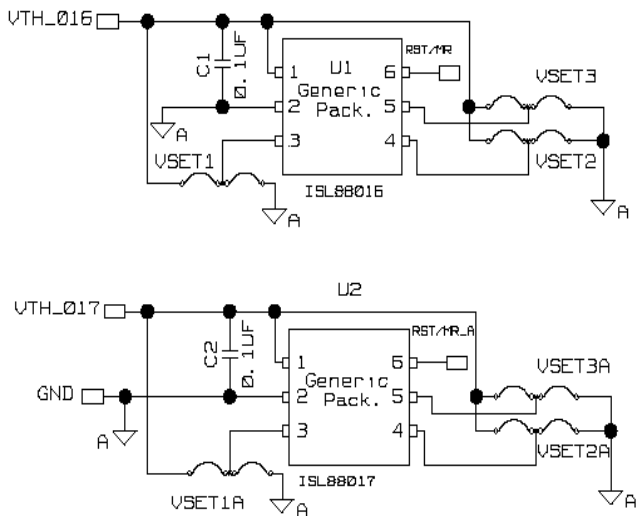
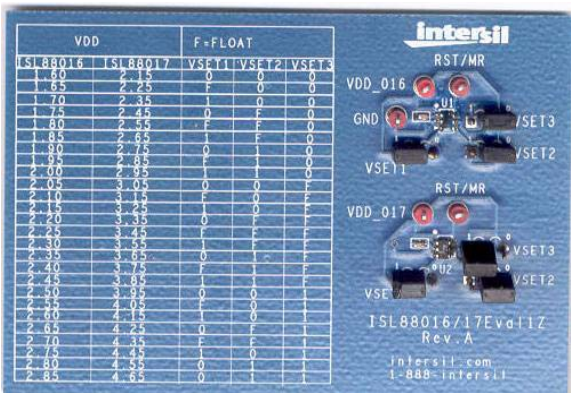

FIGURE 4. ISL88016/17EVAL1Z SCHEMATIC
FIGURE 5. ISL88016/17EVAL1Z PHOTOGRAPH
The ISL88016/17EVAL1Z platform is provided with both an ISL88016 in the top and an ISL88017 in the bottom positions. Each IC is default programmed to VSET1, VSET2 and VSET3 = FLOAT but provided with jumpers to change the V_{th} level by individually connecting the three VSET pins to either V_{DD} (1) or GND (0). To the left of the circuits is a VSET programming table for easy reference. Provide adequate bias to V_{DD} to deassert RESET signal. See Figure 4 for the ISL88016/17EVAL1Z schematic and Figure 5 for its photograph.